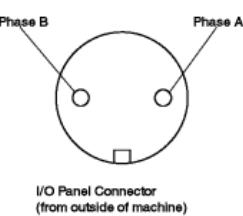

Figure 8. I/O Panel Connector
- Connect the ohmmeter, using Table 5, to check the resistance that was fewer than 5000 ohms in the end-to-end test you ran earlier. (See Figure 8.)